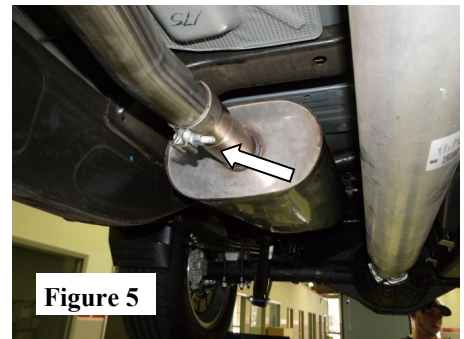

Figure 5
- Place a clamp on the inlet of the **Muffler Assembly** and insert into the **Front Pipe Assembly** and insert hanger into rubber isolators. Use a muffler stand or an assistant to hold into position. (See Fig. 5) Do not tighten the clamp.